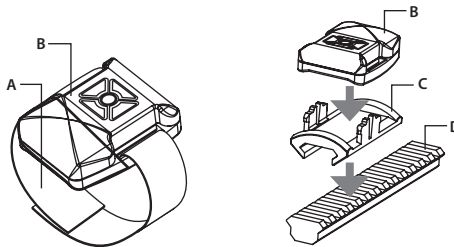

FIGURE 3-6. ADVANCED WIRELESS REMOTE CONTROL
Using the supplied Velcro tape (A, Figure 3-6), fasten the remote control (B) to your weapon in an easily accessible place (e.g., on the front of the rifle stock).